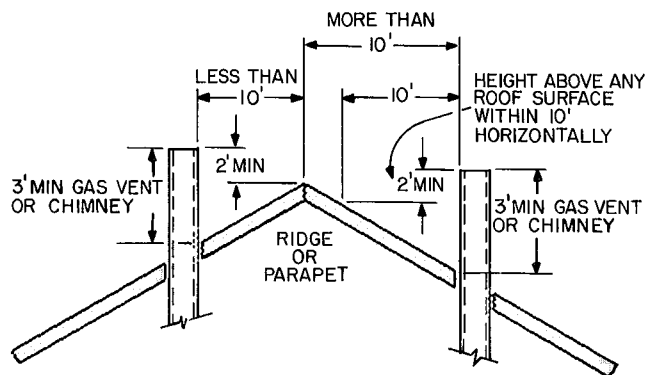

Fig. 4 — Chimney, Gas Vent Height
- 9. Chimney or gas vent should extend at least 5 ft above highest connected draft hood and should extend high enough above roof of any neighboring obstruction so that wind from any direction will not create positive pressure in vicinity of a chimney or gas vent outlet. Chimney or gas vent should extend 3 ft higher than point of emergence thru roof, and at least 2 ft higher than any object within radius of 10 feet. See Fig. 4.